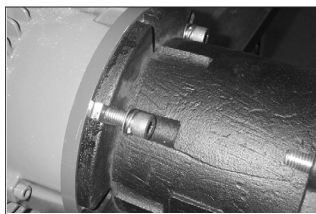

Figure 8
cap screws, lock washers and flat washers (items 18, 19, 20). Use 3/8" Allen wrench or 3/8" ballpoint hex socket on universal joint. See figures 8 and 9.